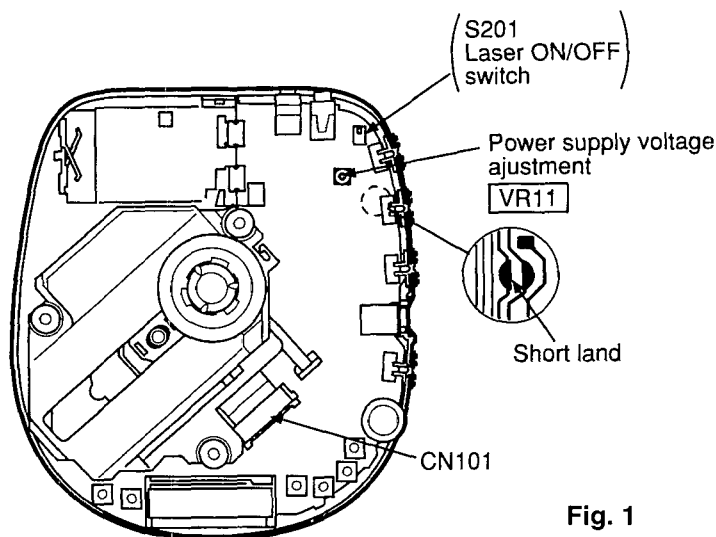

Fig. 1
Short-circuit the lands of the laser ON/OFF switch (S201) by soldering them. It turns "ON" position. (Refer to below Fig. 1. or printed circuit board and wiring connection diagram for short land location on page 26.)
2. Take care to connect CN101 (as shown in Fig.1).
| <ol style="list-style-type: none"> <li>1. Connect the DC voltmeter to TP103 (VCC) (+) and TP104 (GND) on the P.C.B.</li> <li>2. Connect the AC adaptor cord to the DC (IN) port and move the PLAY switch to the ON position. Anti-shock is set in OFF position. (Use a new dry cell battery or a rechargeable battery that is full charged.)</li> </ol> | <ol style="list-style-type: none"> <li>3. Insert the test disc, and switch the player power ON.</li> <li>4. Adjust VR11 on the P.C.B. at <math>2.50 \pm 0.02V</math>, as shown in Fig.1.</li> </ol> |